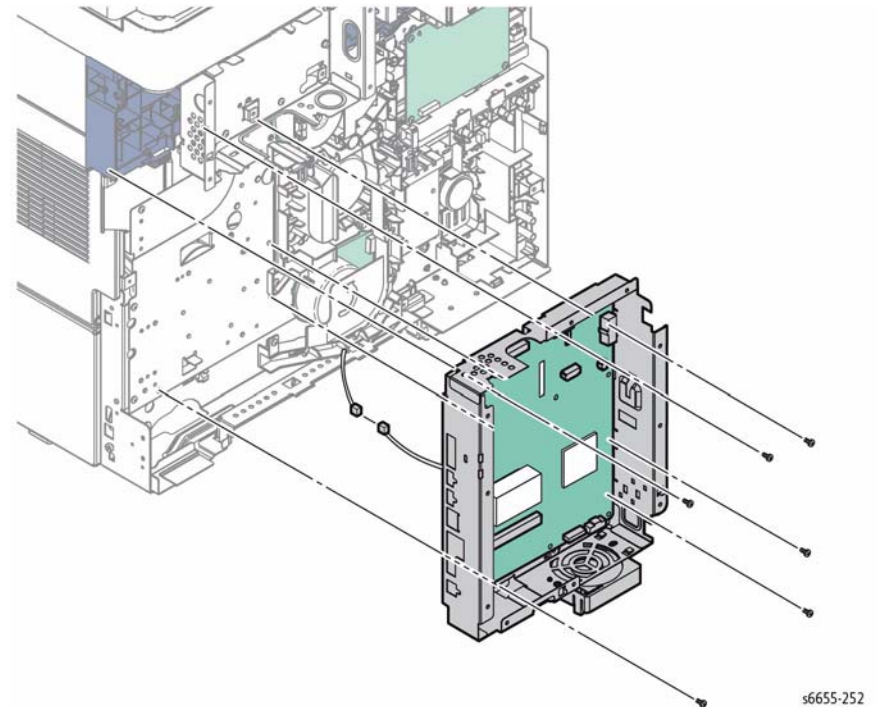

Figure 2 Remove the IP Box
9. Refer to Figure 2 to locate and remove the nine screws (silver, 6 mm) that attach the IP Box to the chassis and remove the box. Don't let the box fall.